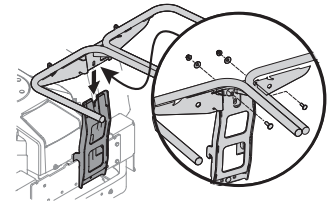

Figure 7
1. Install and secure hanger assembly onto the vertical support bracket using two carriage bolts (710-0276), two cup washers (736-0242) and two lock nuts (712-04063) from hardware pack 689-02364. See Figure 7.